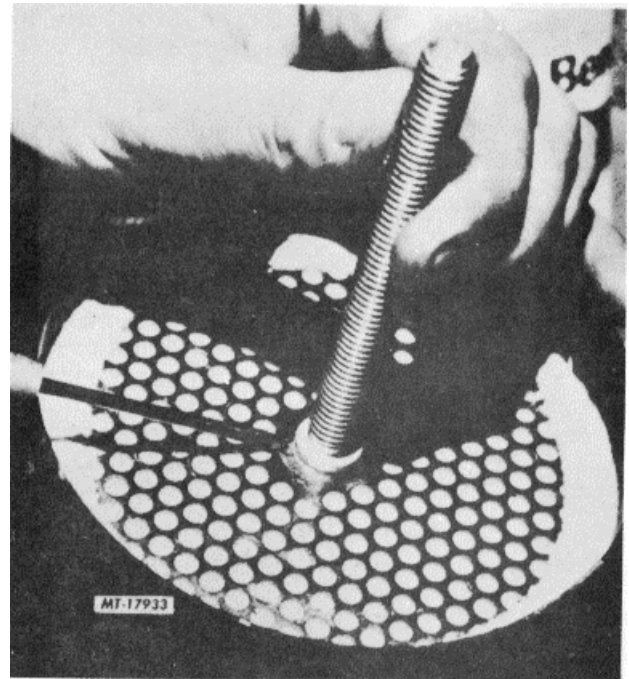

Fig. 14 Installing Second Perforated Plate
IMPORTANT: Before tightening the lock nut down make certain that the shoulder (unthreaded portion) of the cartridge bolt extends slightly above the perforated desiccant plate (see Fig. 14).
5. Level the desiccant material and install second perforated plate, felt cloth down. Make sure the shoulder of the bolt is centered and extends slightly above the top of the perforated plate (Fig. 14).